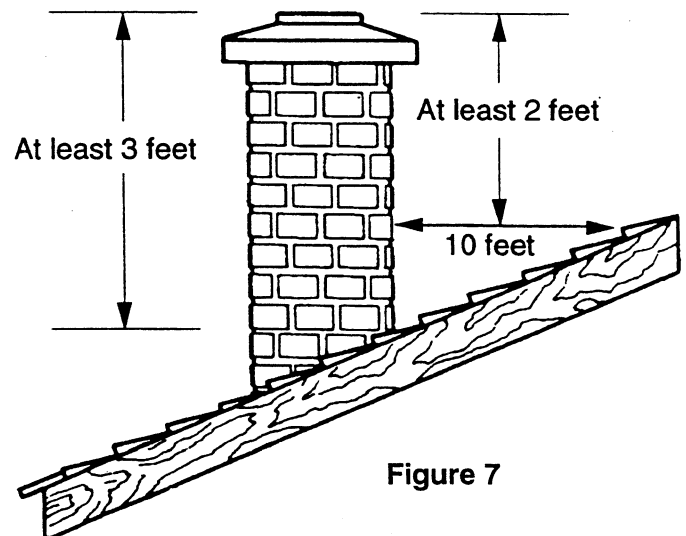

Figure 7
- A chimney must be the required height above the roof or other obstruction for safety and for proper draft operation. The requirement is that the chimney must be at least 3' higher than the highest point where it passes through the roof and at least 2' higher than the highest part of the roof or structure that is within 10' of the chimney, measured horizontally (Figure 7).
The chimney must be the required height above the roof or other obstruction for safety and proper draft operation (Figure 7).